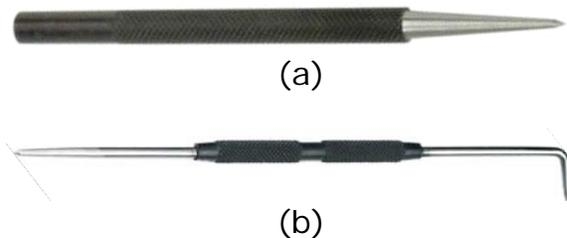

Fig 3.2(a) One-end scriber
- a) One-end scriber as shown in Fig. 3.2 a.
- b) Double-end scriber as shown in Fig. 3.2 b